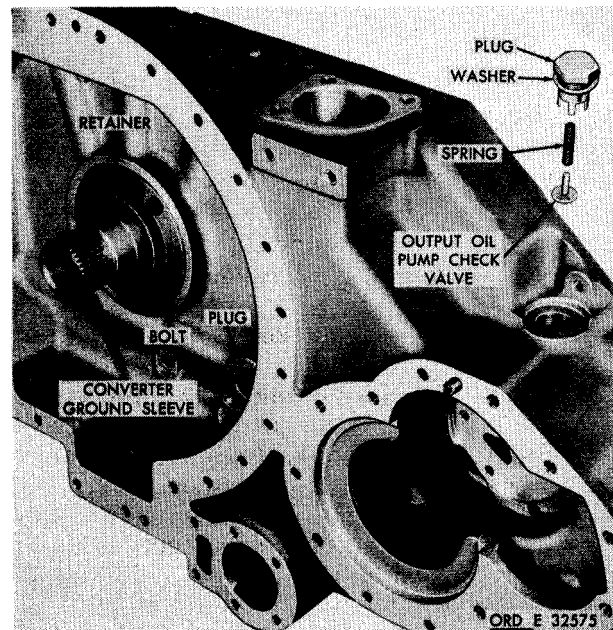

Figure 156. Torque converter housing and related parts
a. Using a 1-1/2-inch wrench, remove output oil pump check valve plug, washer, valve and spring (fig. 156).
b. Using a 9/16-inch wrench, remove five self-locking bolts retaining seal ring retainer (fig. 156). Remove the retainer.
c. Do not remove the torque converter ground sleeve unless replacement is necessary (fig. 156). If necessary, press the sleeve from the housing toward the front side.
KC2 a. Install any plugs in housing which were removed to aid in the cleaning of the torque converter housing (fig. 156).
b. If the converter ground sleeve was removed, install a new replacement ground sleeve (fig. 156). Press sleeve into housing until firmly seated, being sure that the bolt holes in the housing and sleeve are properly indexed.
c. Install the seal ring retainer and secure with five 3/8-16 self-locking bolts (fig. 156). Torque the bolts to 36-43 pound-feet.
d. Install output oil pump valve, spring, washer and plug (fig. 156).